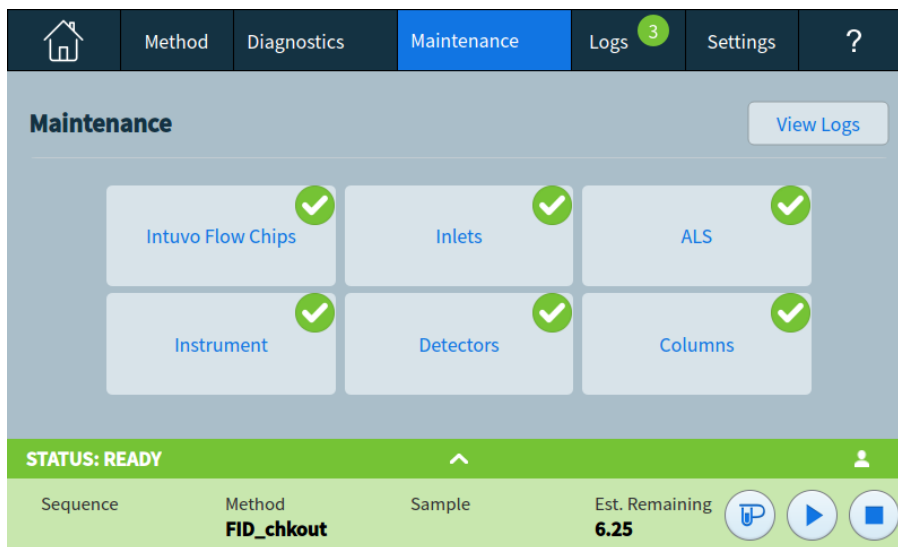

Figure 32 Maintenance view
Pressing the **Maintenance** button brings up the Maintenance view. See Figure 32.
- 1 Press the **Maintenance** button on the GC touch screen ribbon. The Maintenance screen appears. See Figure 32 on page 91.